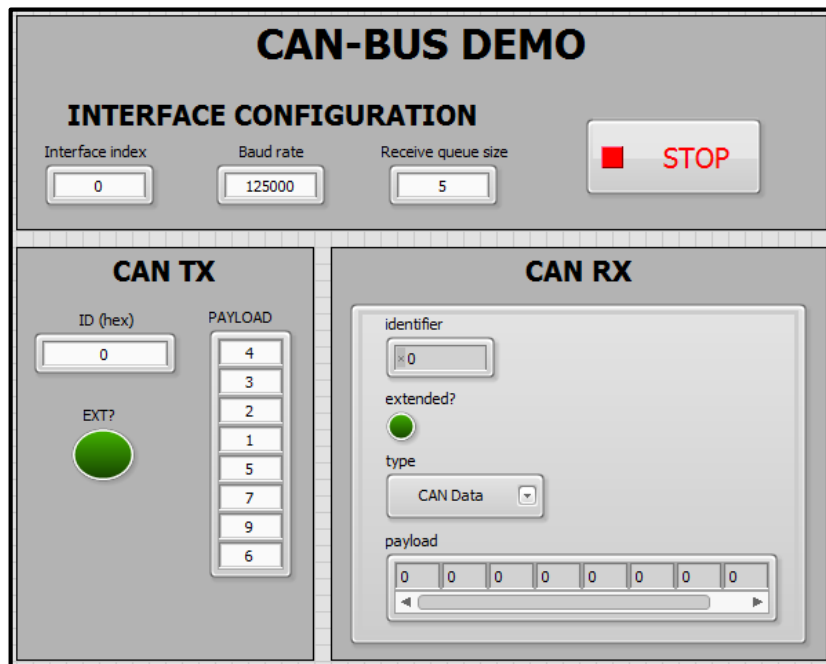
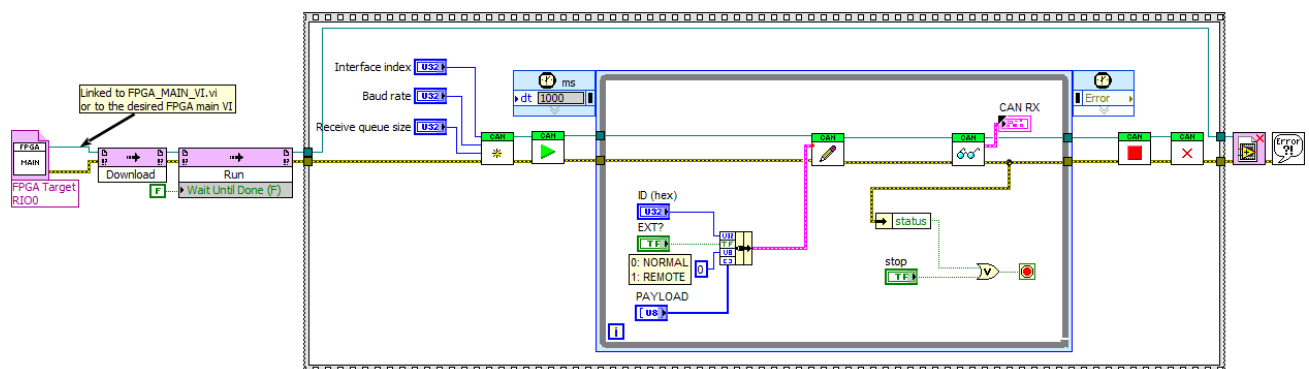

Figure 15. CAN-bus Real-Time front panel.
Figure 16. CAN-bus Real-Time block diagram.
Using the generated CLIP, CAN-bus is directly controller by the Real-Time (RT) target, without any need to program the FPGA. Front panel of the provided CAN-bus demo in shown in Figure 15. In the RT target, a black FPGA VI can be loaded and run as shown in Figure 16.